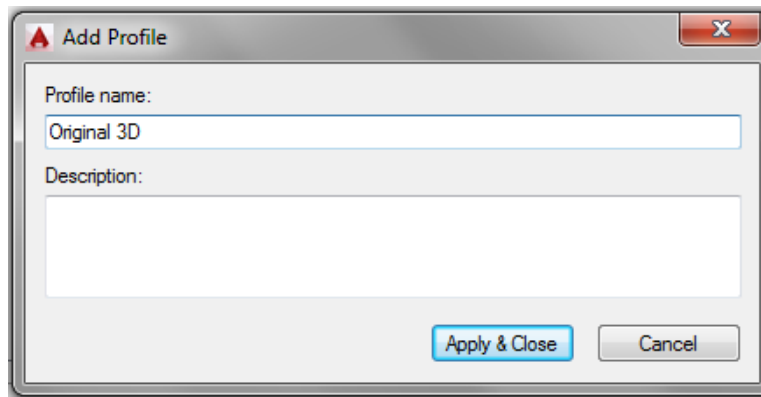

Figure Step 3A
Step 3 Click the Add to List button. This will open the Add Profile dialogue box. Enter the Profile name: Original 3D. (Figure Step 3A and 3B)